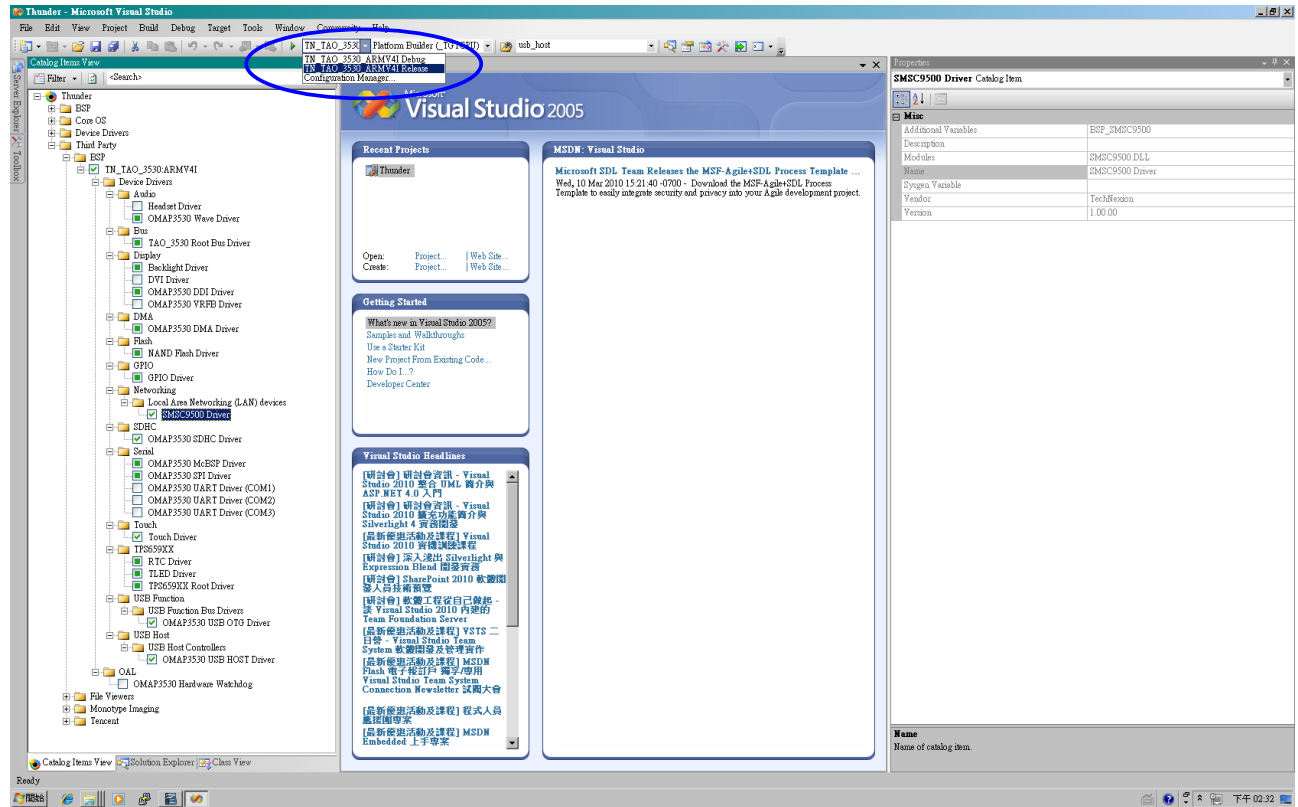

Figure 165
- Chose “TN_TAO_3530_ARMV4I Release”. (See Figure 165)